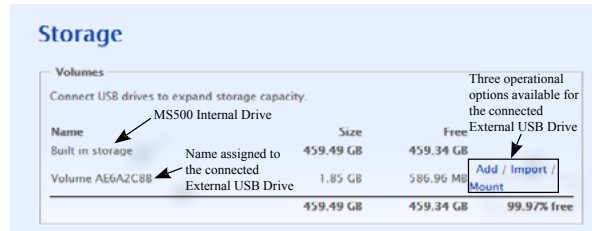

Figure 37
- Click on the “Content” Tab (located along the top), then scroll down to “Storage”. Referring to figure 37, the three options for the external USB Connected Drive appears next to the “Free” Space Listing. The option choices include “ADD, IMPORT or MOUNT”. When any one three choices are selected, a new window will appear explaining the functioning, any possible limitations and “OK”